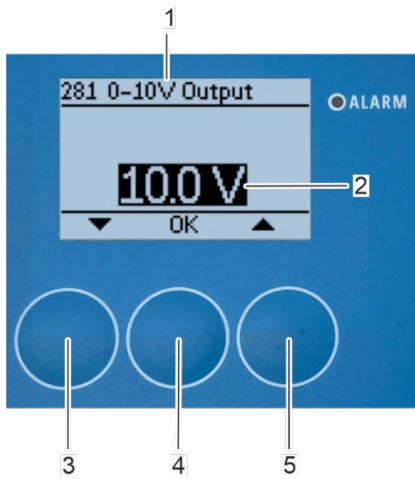

Fig. 142: Set 0-10 V output signal
⇒ The "281 0-10V Output" submenu (Fig. 142/1) appears on the display.
3. Set the output voltage (Fig. 142/2) with the arrow keys [up] (Fig. 142/5) and [down] (Fig. 142/3).
4. Confirm the selection with [OK] (Fig. 142/4).